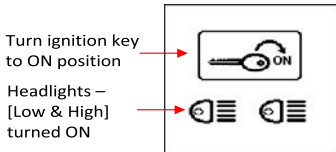
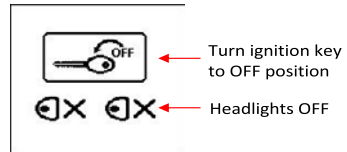

Fig.17
Fig.18
6. If the tester detected that the battery has surface charge it will prompt the user to turn the ignition key to ON and switch on the headlights (Fig.17) to discharge the battery until it has reached to the next display that shows turn ignition OFF and headlights OFF (Fig.18) as display shown below and press  to continue.